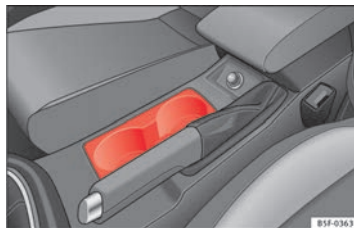

Fig. 87 Centre console: front drink holders.
- Place drinks in the holder ⇒ Fig. 87. Placement of two drinks is possible. There is also the possibility of placing larger plastic bottles in the trims of the doors.